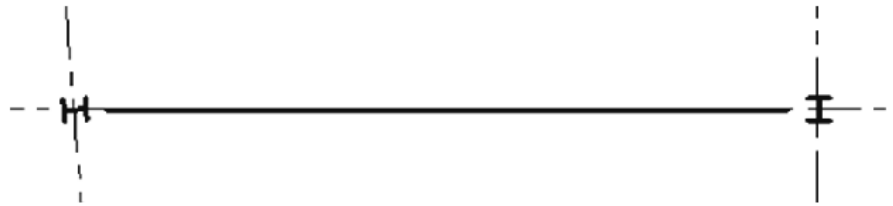

Figure 7-74
3. In a plan view, which of the following changes the display to show the stick symbol for beams, as shown in Figure 7-74?